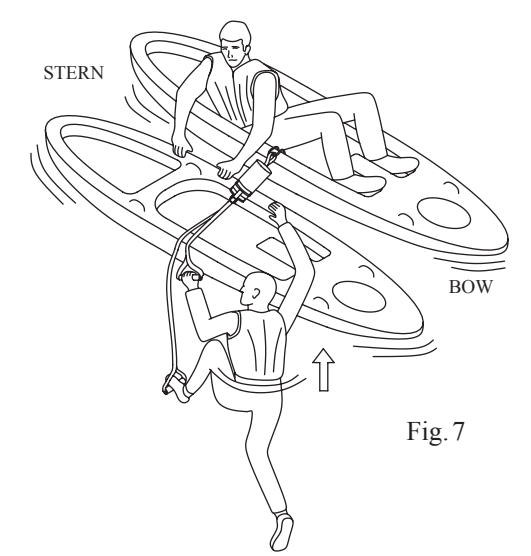

Fig. 7
- Throw the “STEP”, “HANDLE” and their webbing across the unoccupied vessel. (See FIG 7)